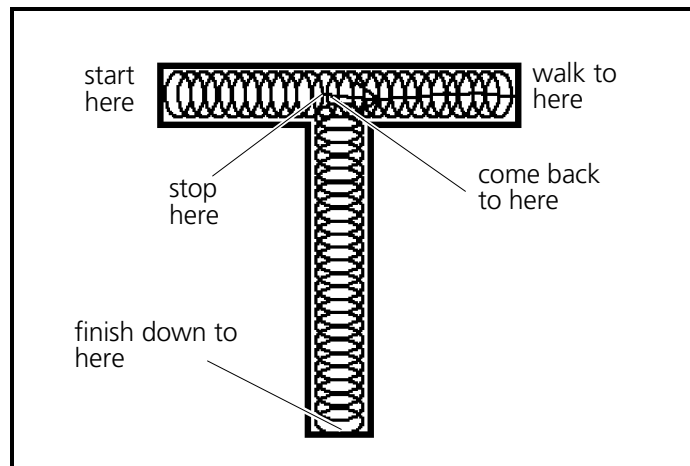

Figure 4-5
- Never lay coils over each other. For example, in a capital T, stitch coils from the upper left to the middle, walk stitch out to the upper right extreme, then come back to the middle again with the coil stitching and finish stitching coils down the middle of the body (see Figure 4-5).